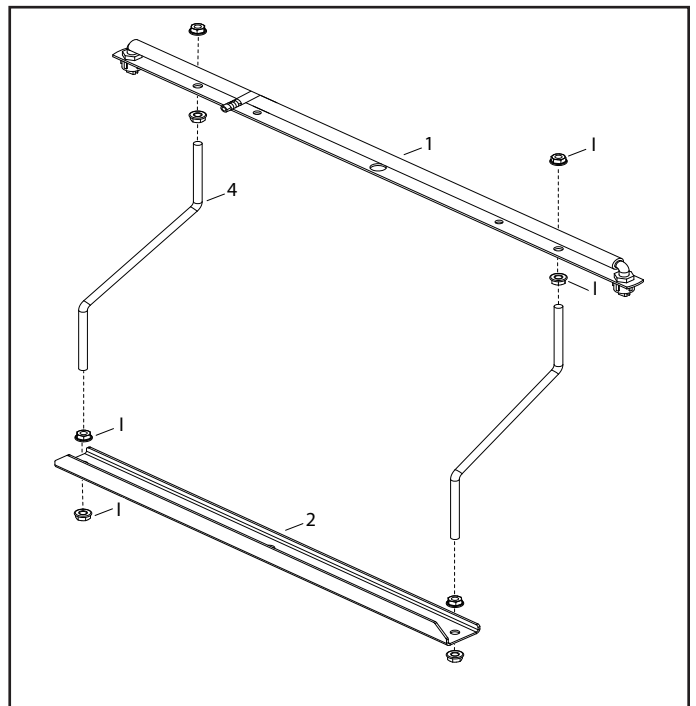

FIGURE 6
STEP 6: (SEE FIGURE 6)
- Attach the boom support rods (4) to the boom assembly (1) using four hex nuts (I).
- Attach the boom support rods (4) to the boom support bracket (2) using four hex nuts (I).